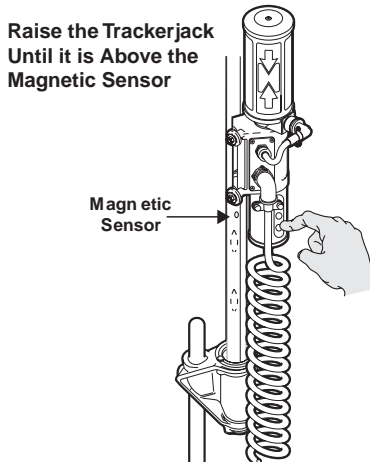

Figure 1-15. Raise Trackerjack Above Magnet
4. Raise the Trackerjack until its magnetic pickup sensor is above the magnet at the bottom of the pole (Figure 1-15). The magnets at the top and bottom of the pole keep the Trackerjack on the pole.